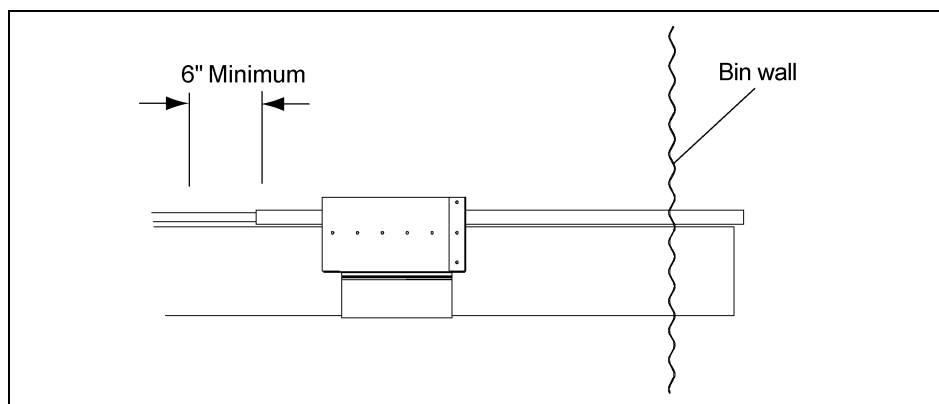

Figure 4F
7. Continue installing the floor to the desired intermediate well position. Locate the sump so that grain will be removed to allow entrance through the side door. The location will vary based on grain properties and the level of experience of the installer. The well is designed to fit in two (2) plank widths. The locking lip of the preceding plank may need to be removed to allow an easy fit between two (2) plank widths. Slide the well body tight against the preceding plank and mark the position of the well on the tube. Slide the well away and cut the opening in the tube.
8. Reposition the intermediate sump body over the hole. Secure in place with the band clamp and eight (8)  $\frac{3}{8}$ " x  $1\frac{1}{2}$ " bolts and nuts provided.
9. Position the intermediate control rod as shown in Figure 4F with 6" of pipe behind the body of the well. Mark the position of the gate clamp on the pipe with the gate slide shut. A  $\frac{3}{8}$ " hole must now be drilled on one side of the pipe to receive the dimple in the gate clamp. Bolt the clamp to the slide gate with two (2)  $\frac{5}{16}$ " x  $\frac{3}{4}$ " bolts and deformed lock nuts.